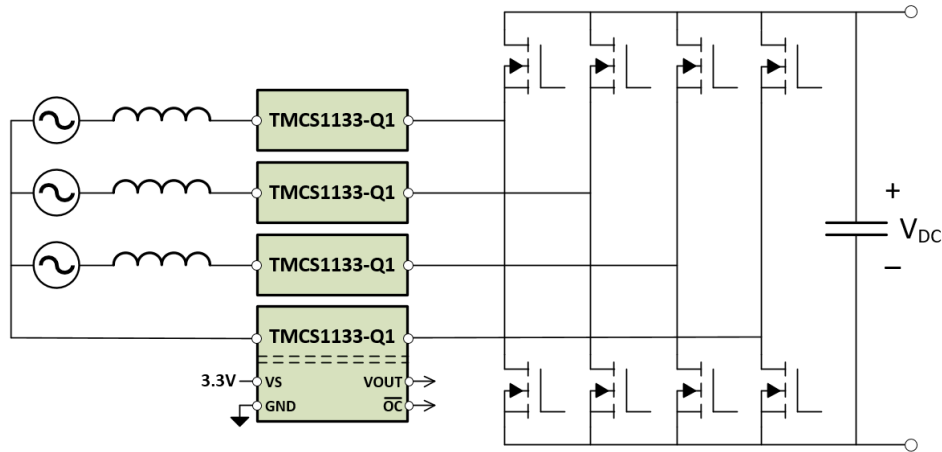

図 9-2. AC to DC Converter Current Sensing
In many applications, power must be converted from AC sources for use in DC circuitry. Some type of controlled power factor correction (PFC) stage is usually needed to improve power transfer efficiency. Faster and faster power switches are being used in modern PFC stages to reduce overall size and to improve power transfer efficiency. Often, the PFC stage of AC to DC converters is connected directly to AC power grids. A primary challenge to sensing in PFC stages is that the current sensor is subjected to large voltage spikes coming from the high-voltage (HV) power grid along with large transients coming from high speed power switches during charge transfer. Inherent isolation in the TMCS1133-Q1 construction helps overcome these challenges by providing high levels of isolation between the HV current sensing nodes and low-voltage control circuitry, with high common-mode transient immunity (CMTI). 図 9-2 shows the use of the TMCS1133-Q1 measuring phase currents in a common AC to DC converter stage.